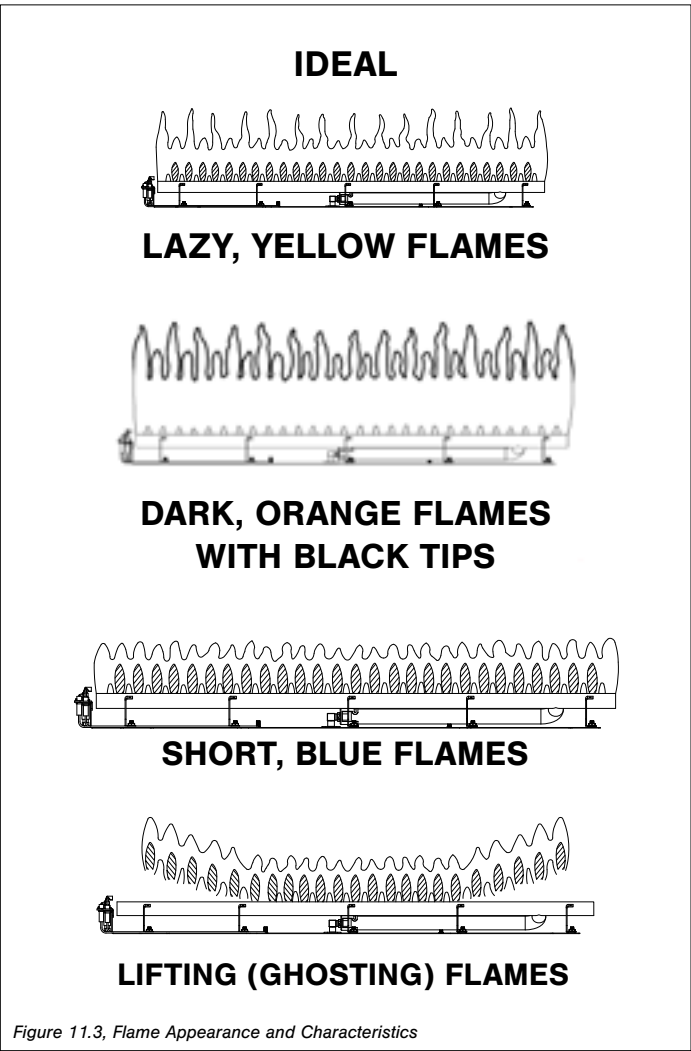

Figure 11.3, Flame Appearance and Characteristics
- Visually check pilot light and burner flame pattern when in operation. Flames should be steady, not lifting or floating. Refer to Figure 11.3, Flame Appearance and Characteristics on page 42.